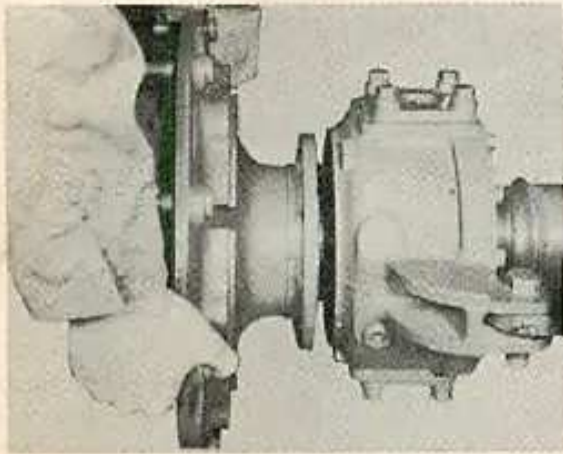

Fig. O17 — Removing wheel hub assembly from spindle support.
32. HUB ASSEMBLY. To overhaul the wheel hub assembly, first remove planet spider assembly as outlined in paragraph 30. With planet spider removed, remove snap ring and sun gear from outer end of axle shaft. See Fig. O16. If necessary, the internal gear can be removed at this time by clipping the lock wires and removing retaining capscrews. Straighten tabs of spindle nut lockwasher, then use OTC tool JD-4 or equivalent and remove spindle outer nut and lockwasher. Now loosen but **do not** remove the spindle inner nut. Unbolt spindle from spindle support and remove wheel hub assembly as shown in Fig. O17.